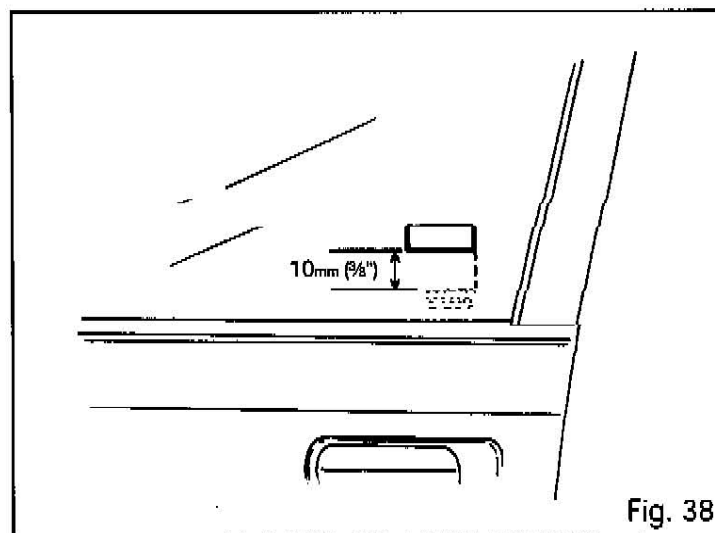

Fig. 38
- (1) A) Clean the inside surface on the driver's and front passenger's door windows. (Not shown)
- B) Attach the warning labels to the inside surface of the door windows as shown Fig 38